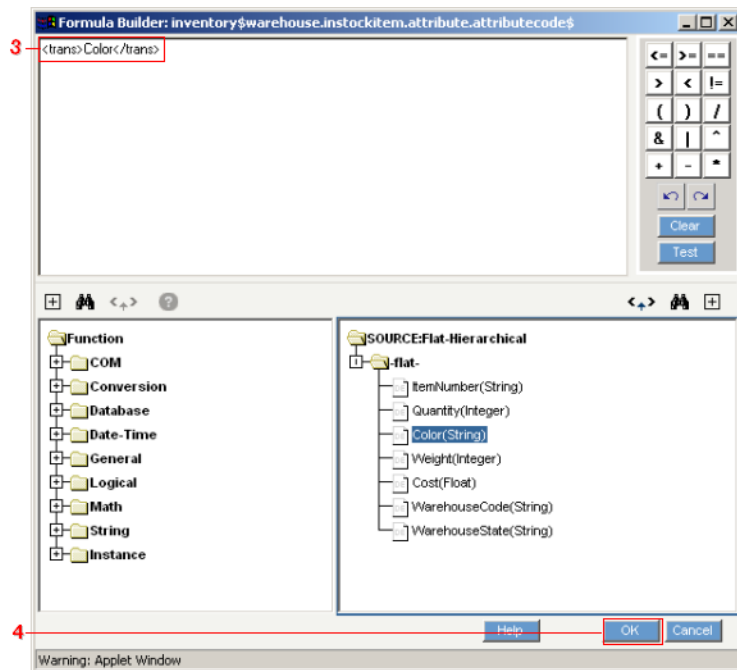

Figure 24-7. Setting the value for this attribute code means simply typing in the name of the attribute.
- ③ Type in the appropriate value for the field in the expression field at the top of the window. In this example, enter COLOR (but don't use any quotes).
- ④ This simple code is all this data element requires, so click **OK** to dismiss it (see Figure 24-7 below).